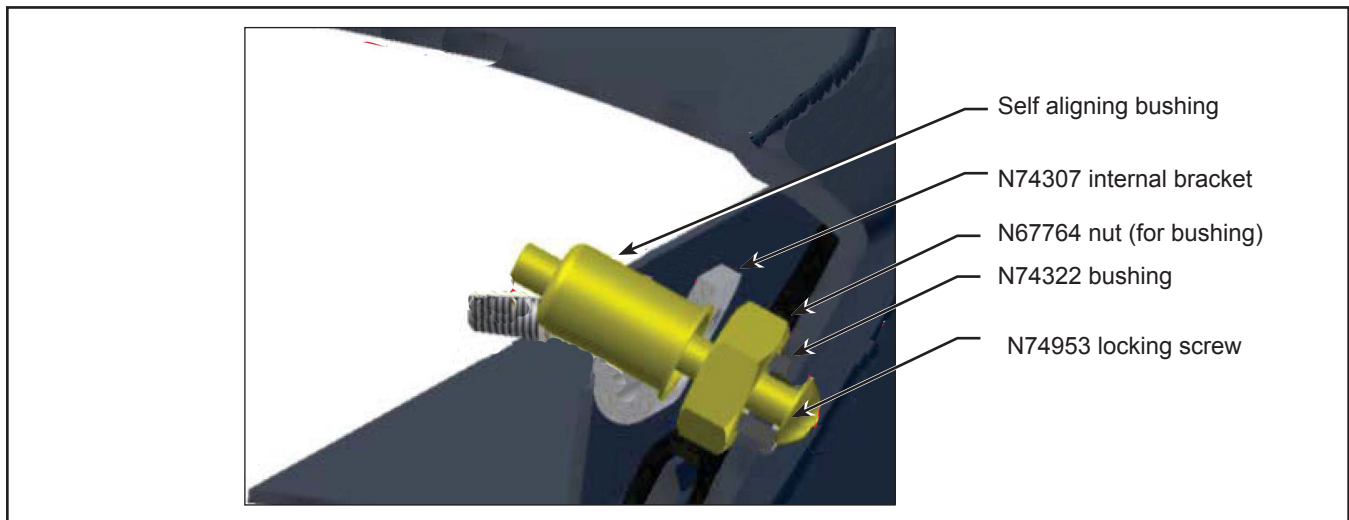

Figure 9 - Bracket Assembly (Bench in Closed Position)
- 1.20. Close the bench and insert the locking screw (N69631) through the bushing and into the internal bracket. See Figure 9. It is suggested to hand tighten the screw